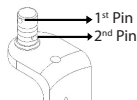

Figure 11
- **Retractor Blades** have a “dual fixation” connection which allows the blade to remain fixed or to rotate. To attach the **Retractor Blade** to the **Blade Holder** (such as AL-0105), insert the **Retractor Blade** through the **Blade Holder** connection so that the first pin in the connector can pass through the groove in the **Blade Holder**. (Figure 11)